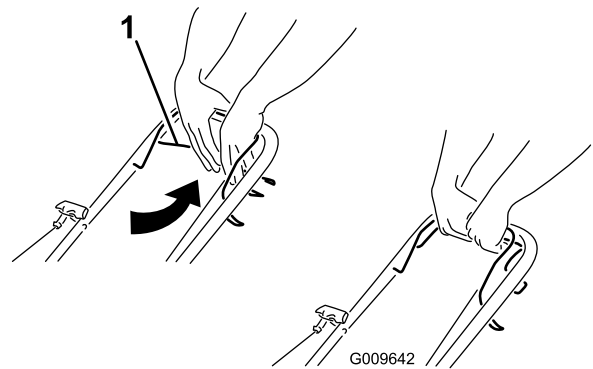

**Figure 11**
2. Pull the recoil start handle (Figure 11).
(Figure 11). Allow the rope to return to the handle slowly.